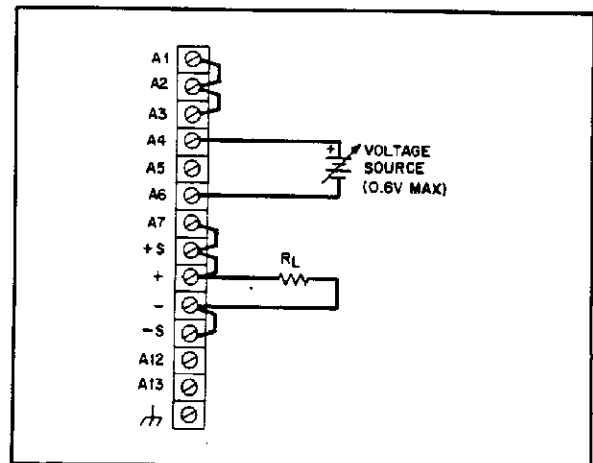

Figure 3-9. Voltage Programming of Output Current
**3-46 Constant Current Output, Voltage Control.** In this mode (Figure 3-9) the output is varied by the external voltage source at a rate established by the programming coefficient of  $50\text{mV/A} \pm 10\%$ . The external voltage required to obtain maximum rated output current from the supply is about  $500\text{mV}$ . An input greater than  $600\text{mV}$  will cause excessive power dissipation and possible damage to the supply. The load on the external voltage source will be less than  $20\text{ microamperes}$ .